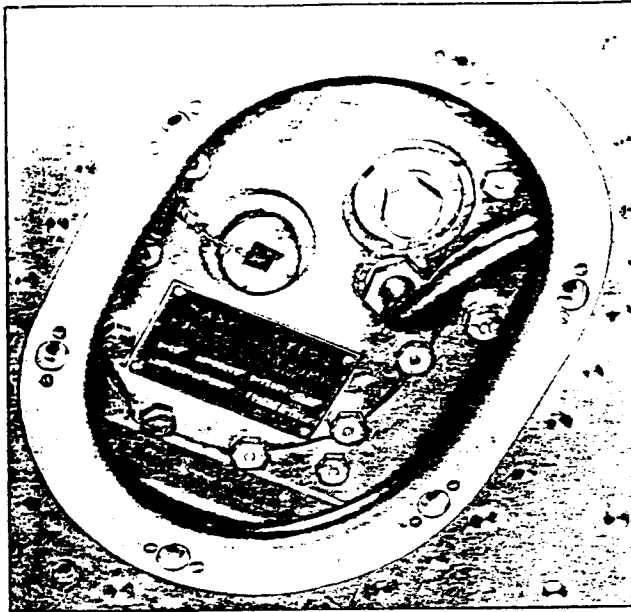

Figure 9. Fuel Booster Pump Installation
g. FUEL BOOSTER PUMPS. (See figure 9.)
(1) DESCRIPTION.- A Type B-15, 200 volts, 400 cycles, three phase, alternating current electric motor-driven fuel booster pump is installed in each main fuel tank. The fuel booster pumps are submerged, and operate flooded with fuel to provide lubrication of the bearings and cooling of the motor windings. The pump is bolted to fittings in the bottom of the fuel tank, and access is gained by removing the access cover from the lower side of the wing, under each main fuel tank.
(2) REMOVAL.